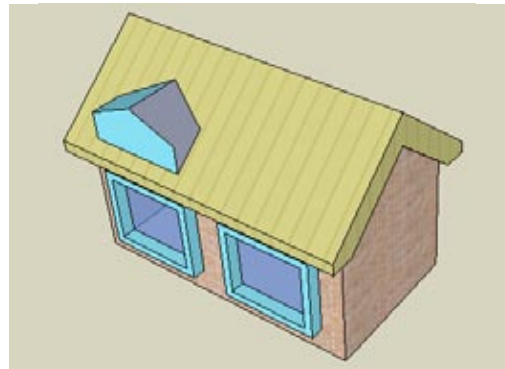

Figure 5-45
7. Complete the edges for the hole in the roof and erase the hole face (Figure 5-45).